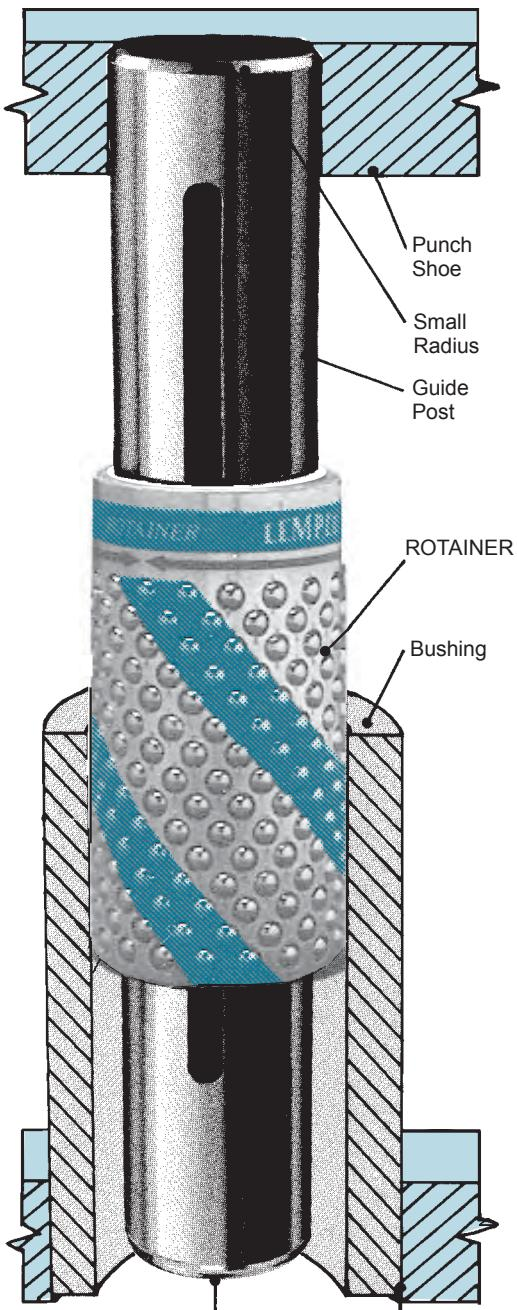

FIGURE 1 Large Radius Die Shoe
FIGURE 1 represents a typical guide post and ROTAINER®. Please note that the end of the guide post with the *small radius* is press fit into the punch shoe, and that the ROTAINER® is assembled with the ROTAINER® Slide assembly toward the same end of the guide post. On the bushing, however, the end with the *large outside diameter radius* is press fit into the die shoe.
Assemble ROTAINER® to guide post (FIGURE 1) by screwing the set screw in until flush with special ROTAINER® slide. Vertical and rotational movement should now be
2. Minimum Shut Height – See Figure 1.
- A. Lay out die as in Figure 1 (Minimum Shut Height). This determines maximum guide post length and maximum bushing height.
- C. Maximum Open Height (Maximum Shut Height plus Stroke) as in Figure 3 shows minimum guide post engagement in bushing that is required. If this is at least  $\frac{3}{4}$ " then conditions are ideal. However, if this dimension is less than  $\frac{3}{4}$ " then Figure 4 should be considered. Actual work is done for only a fraction of the total stroke on most dies and if conditions shown in Figure 4 are satisfied in conjunction with Figure 1 and Figure 2 then full length of stroke and maximum open height can be disregarded.